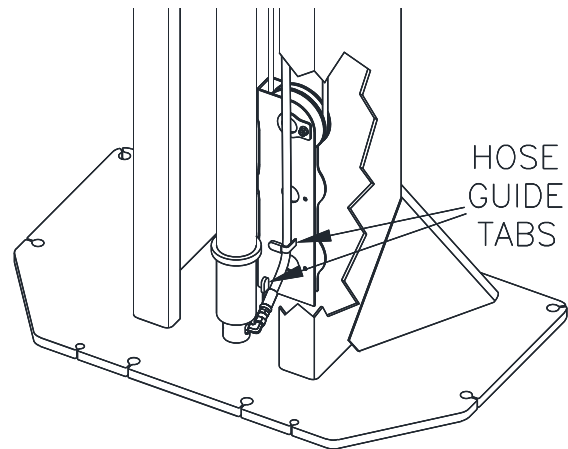

Fig. 15-Hose Connection
- 45) Each column hose should connect to its cylinder with a 90-degree elbow rotated up from horizontal and be routed thru the Hose Guide Tabs as shown in **Fig. 15**.